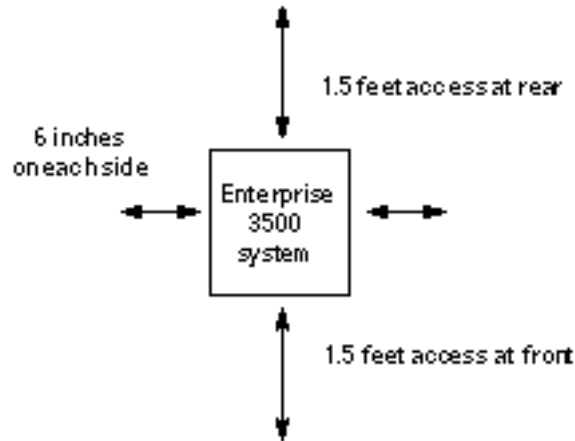

Figure 1-4 Enterprise 3500 Server Access Areas — Top View
- The server unit requires approximately 1.5 feet (47 cm) of space in the front and rear for access by service personnel (Figure 1-4).